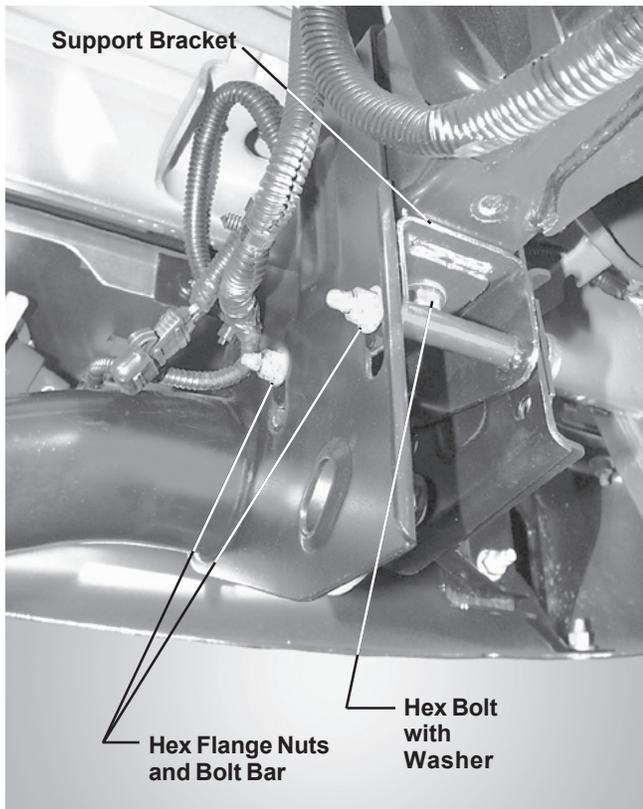

Figure 3
1. Remove OEM-supplied metric hex bolt with flat washer, two hex flange nuts, bolt bar, and support bracket from bumper assembly. (See Figure 3.)